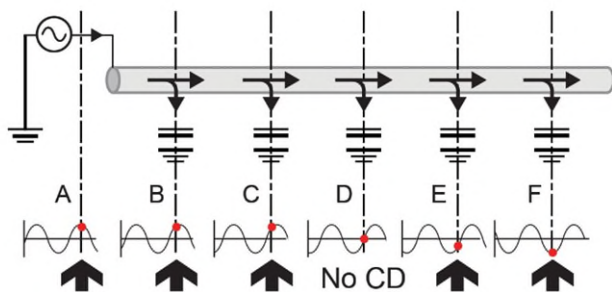

Figure 11.2: CD reset
Figure 11.2 illustrates a buried line with significant capacitance to ground. It illustrates the gradual phase-shift that occurs along the line. The diagram shows a reference point on each waveform. At first, the reference point occurs right on the Peak of a positive half cycle (A). It gradually moves towards the zero crossing point (D) and ends up on the Peak of a negative half cycle (F). The direction has shifted from forwards to backwards. At the intermediate point (D) the current flow cannot be determined. At this point the CD arrows on the MRX SG Marker locator will flash on and off. In the example shown in the illustration, by returning to (C) which is the last point at which a CD reading was achieved, and performing a CD reset, the response at (C) will be equivalent to that of (A).